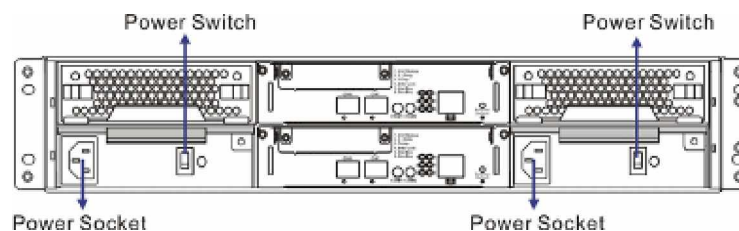

Figure 4-1: Power Sockets and Power Switches
- Turn the two (2) power switches on. (See **Figure 4-1**) Each switch controls a single PSU; therefore make sure that both switches are turned on.